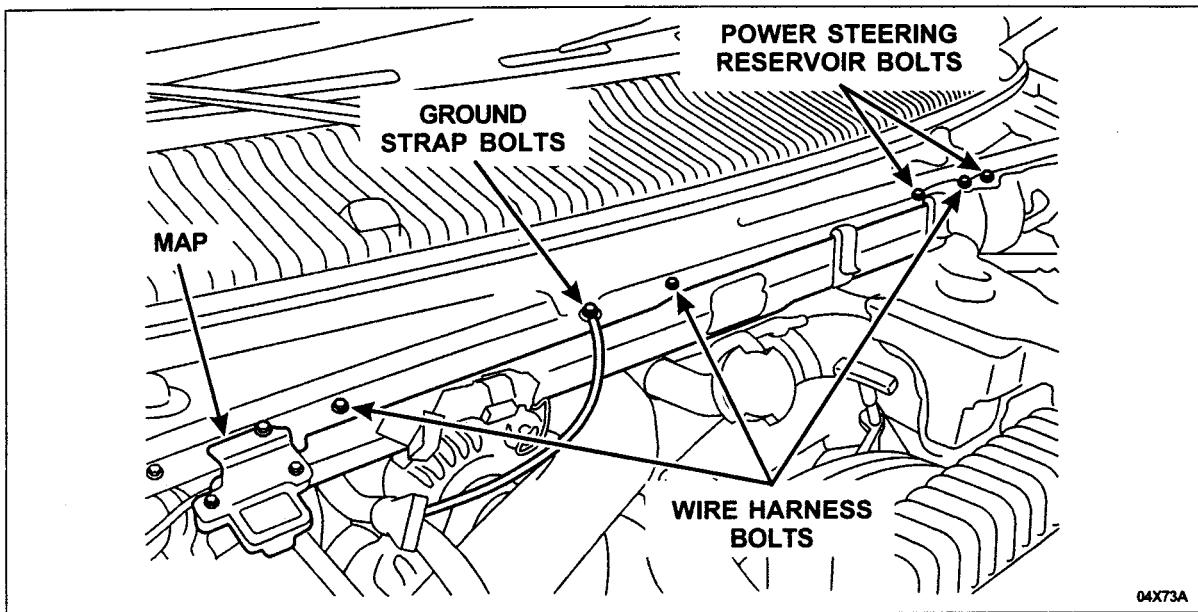

FIGURE 1
2. Position the cowl harness aside as follows. See Figure 1.